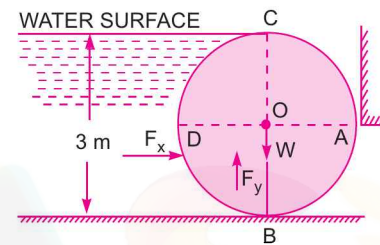

Fig. 3.39
**Problem 3.31** A cylinder 3 m in diameter and 4 m long retains water on one side. The cylinder is supported as shown in Fig. 3.39. Determine the horizontal reaction at A and the vertical reaction at B. The cylinder weighs 196.2 kN. Ignore friction.